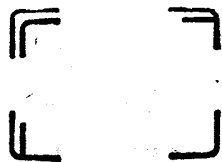

Figure 9
Observing in the view finder (18), point the camera to desired object so that it was placed inside luminous frames of the view finder. If the object is on distance closer than 3m, you should determine frame borders by the parallaxal marks inside a luminous frame (fig. 9).